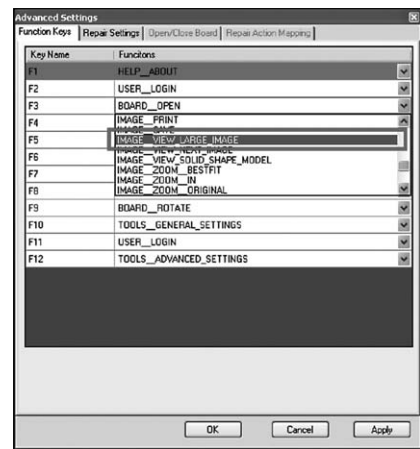

Figure 7: Select "IMAGE_VIEW_LARGE_IMAGE"
3. To assign to view expanded image function to **F3** key, scroll the list of functions until you find the function named **IMAGE_VIEW_LARGE_IMAGE** see Figure 7, select the function and click the **Apply** button and click **OK**, now the view expanded image function can be used by pressing the **F3** key on the keyboard.